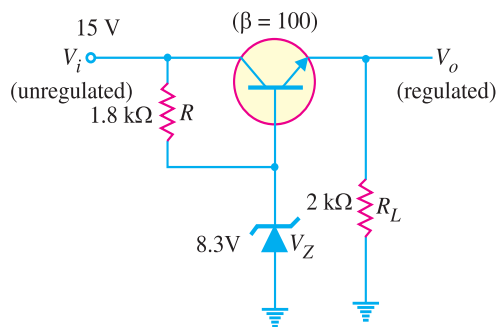

Fig. 17.34
4. Calculate the output voltage and zener diode current in the regulator circuit of Fig. 17.34 [7.6 V, 3.66 mA]